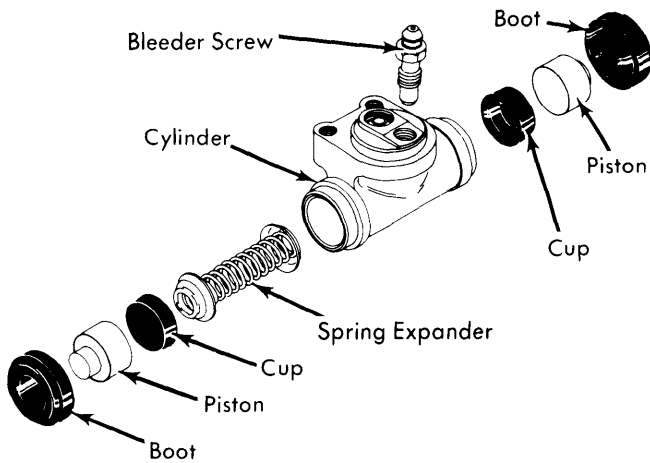

Fig. 3 Exploded View of Wheel Cylinder
**Disassembly** — Remove boots from both ends of wheel cylinder. Remove internal components. See Fig. 3.